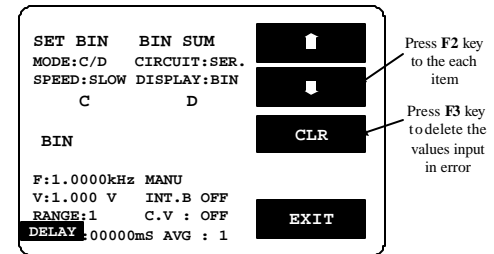

Figure 8-12
- Press $\bar{\Delta}$ key. Please refer to Figure 8-12 below.